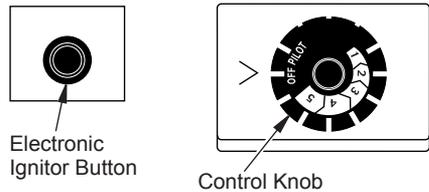

Figure 35 - Control Knob In The OFF Position
4. Wait five (5) minutes to clear out any gas. Then smell for gas, including near the floor. If you smell gas, STOP! Follow “B” in the safety information, page 23. If you don’t smell gas, go to the next step.
5. Turn control knob counterclockwise ↻ to the PILOT position. Press in control knob for five (5) seconds (see Figure 35).
6. With control knob pressed in, press and release ignitor button (see Figure 35). This will light pilot. The pilot is attached to the front burner. If needed, keep pressing ignitor button until pilot lights.